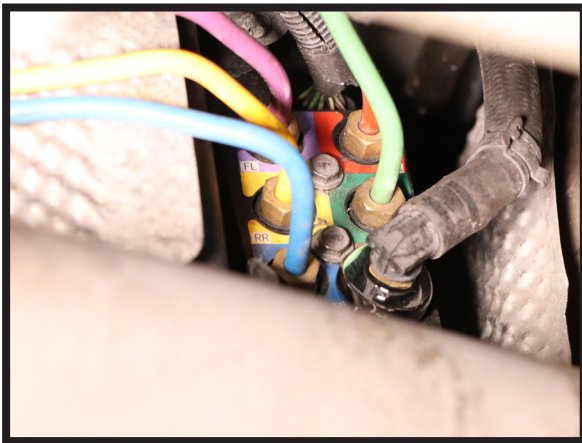

FIGURE 4
5. REMOVE THE AIR LINES FROM VALVE BLOCK. (FIGURES 4, 5)